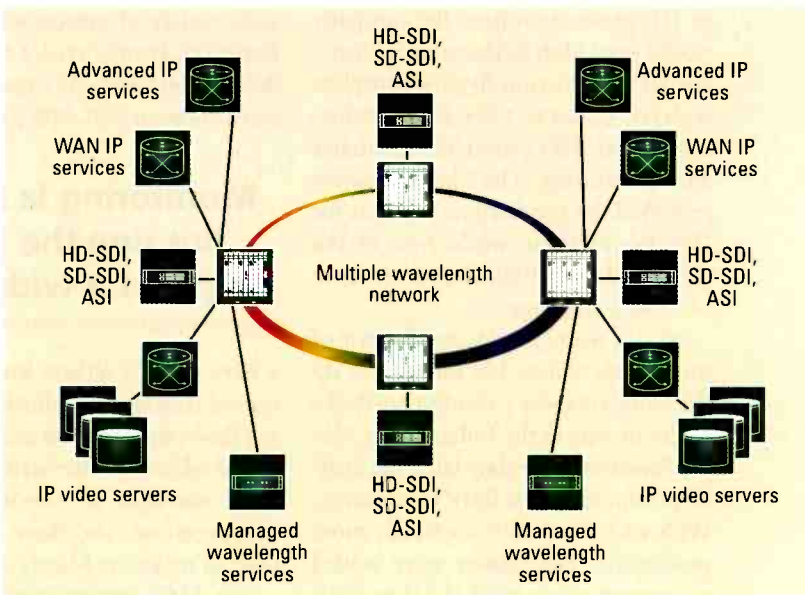

Figure 6. Facility-to-facility interconnection over owned or leased fiber
• **Configuration 6.** Multiservices, high-bandwidth network over multiple wavelengths. (See Figure 6.)